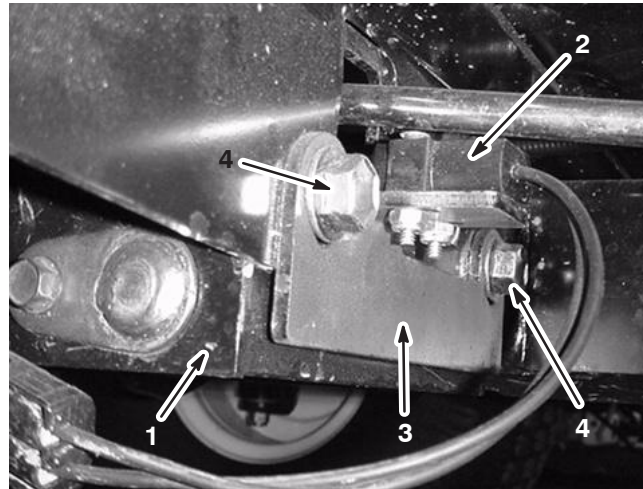

Figure 5
12. Loosely mount the brake switch onto the brake switch bracket (Fig. 5) using 2 bolts (#6) and 2 locknuts (#6).
13. Bolt the bracket to the back of the pedal box using the two bolts on the back of the box (Fig. 5). Secure the bracket so that the button on the switch comes to the center of the screw head you installed on the brake pedal.